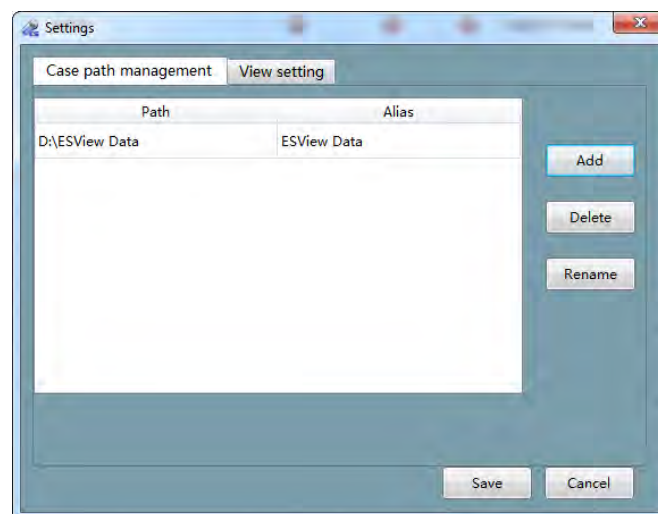

Figure 4-61: Add Case Data Storage Path Interface
2. Click  to access the add case data storage path interface (Figure 4-61). Click “Add”, “Delete”, or “Rename” button to add, delete, or rename the case data storage path. Click “Save” to save changes in settings or click “Cancel” to cancel changes.
3. The software automatically searches two levels of directory under the case data storage path and displays the patient information found in the case list. In the add case data storage path interface (Figure 4-61) click "View setting" to access the view setting interface (Figure 4-62). Drag the mouse or click the "<<" or ">>" buttons to select the data fields to be displayed. The data fields in the "Available Column" box will not be shown in the case management interface, while the data fields in the "Used Column" box will be displayed.